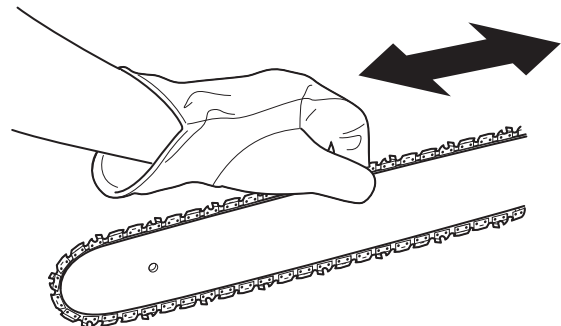

Fig. 28
4. Hold the guide bar tip up and move the saw chain back and forth along the guide bar (Fig. 28). Make sure the saw chain moves freely and is in proper mesh with the sprocket. If the saw chain does not move easily, slowly turn the chain-tensioning screw counterclockwise to loosen the saw chain.